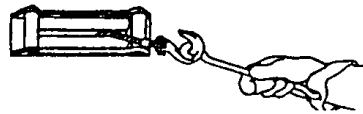

Fig. 3
7. **NEVER WINCH WITH LESS THAN 5 TURNS** of wire rope AROUND THE WINCH DRUM since the wire rope end fastener will NOT withstand a load. Your X6CD winch wire rope has a ten-foot red "warning indicator" on each end. The "warning indicator" at the winch end warns you that the wire rope is near or less than 5 turns. The "warning indicator" at the hook end of the wire rope warns you that the hook is approaching the winch. ALWAYS USE THE HANDSAVER BAR when guiding the wire rope in or out (See Figure 3). As you use your winch, the red paint will wear off due to normal use. When this happens, renew the red paint as it is a safety feature of the winch.